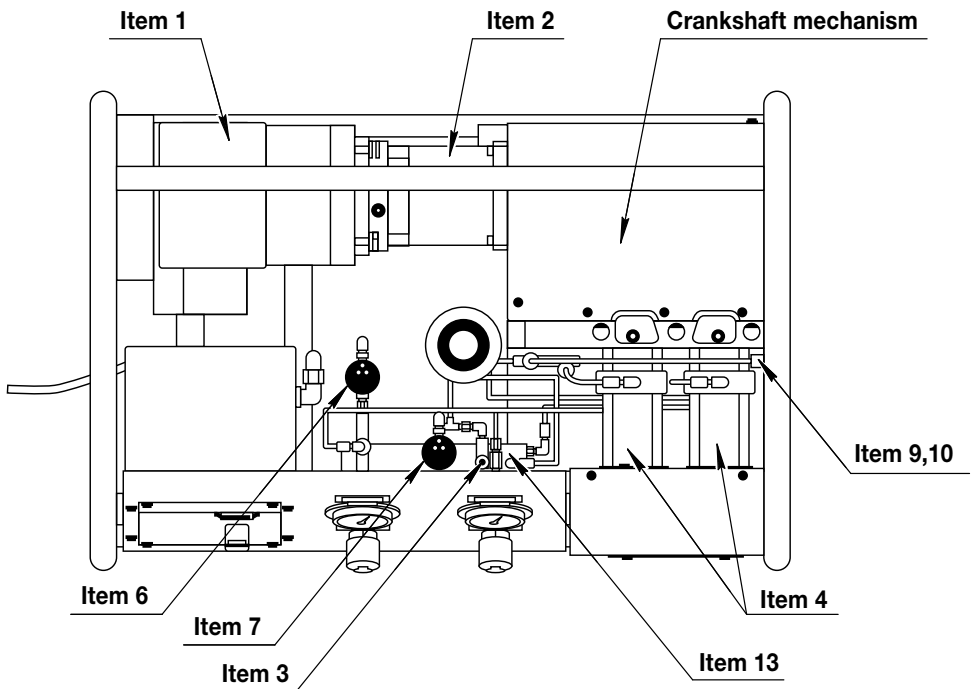

Figure 1. View from above
3.3.3. Make sure the automatic outlet high pressure limit switch item 7 (PS-2) (Figure 1) does not exceed the maximum pressure rating of the cylinder or test vessel.
3.3.11.3. If the high pressure limit switch item 7 (PS-2) should malfunction or has been tampered with, the safety relief valve item 3 (RV-1) (Figure 1) in the gas booster system will automatically relieve the pressure.